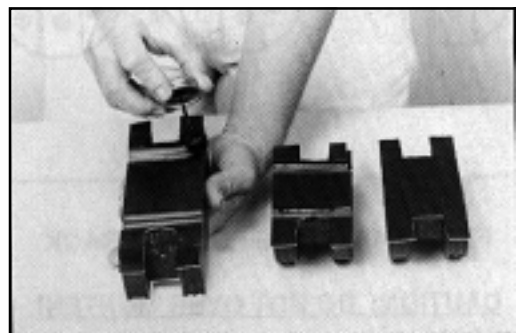

FIGURE 15 – BRUSH C-CEMENT OVER LOCK-TAPE SEALANT
PLP TIP: Stretch tape enough to reduce its width to 1/2" (12.7 mm). Figure 15 shows the completed application of one half-lapped layer of LOCK-TAPE Sealant.
8.02 Before installing prepared cables into the End Plate halves, apply 1/4" (6.35 mm) wide bead of C-Cement adjacent to the drilled hole. (Figure 15)